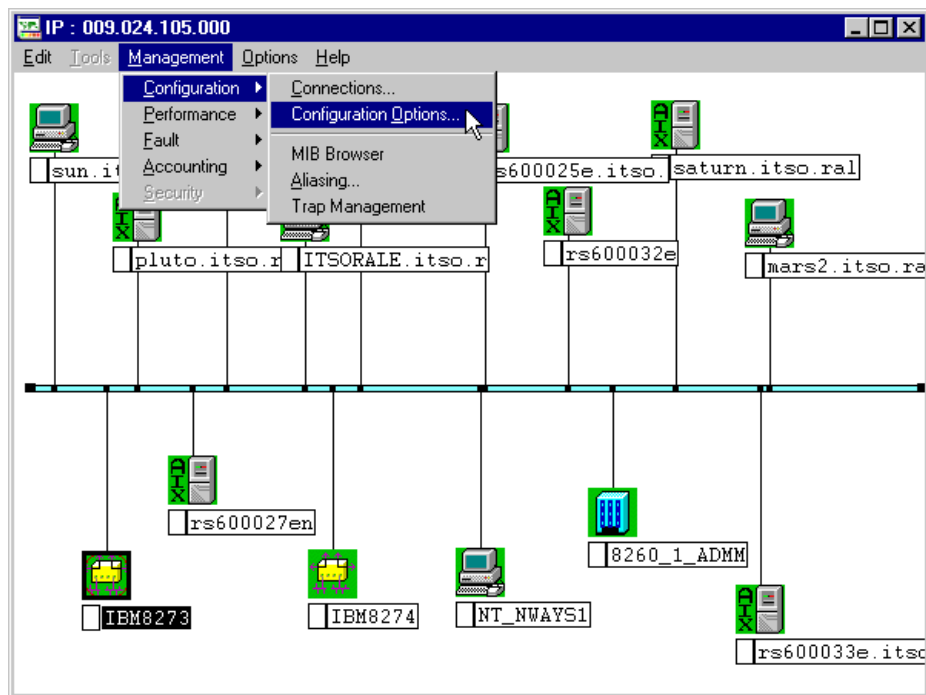

Figure 317. Starting Configuration Options from Menu Bar
- Select **Management->Configuration->Configuration Options** from the menu bar (see Figure 317).